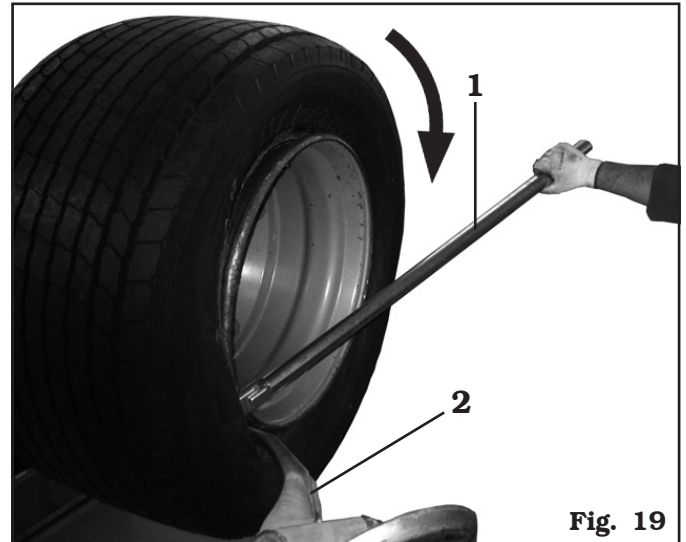

Fig. 19
- Translate the tool outwards (**Fig. 19 ref. 2**) to allow easy insertion of lever (**Fig. 19 ref. 1**) between the rim and the bead; insert lever (**Fig. 19 ref. 1**) between the rim and the bead on the right-hand side of the tool (**Fig. 19 ref. 2**).
- Turn the wheel clockwise keeping lever pressed (**Fig. 19 ref. 1**) until the bead has gone completely out.